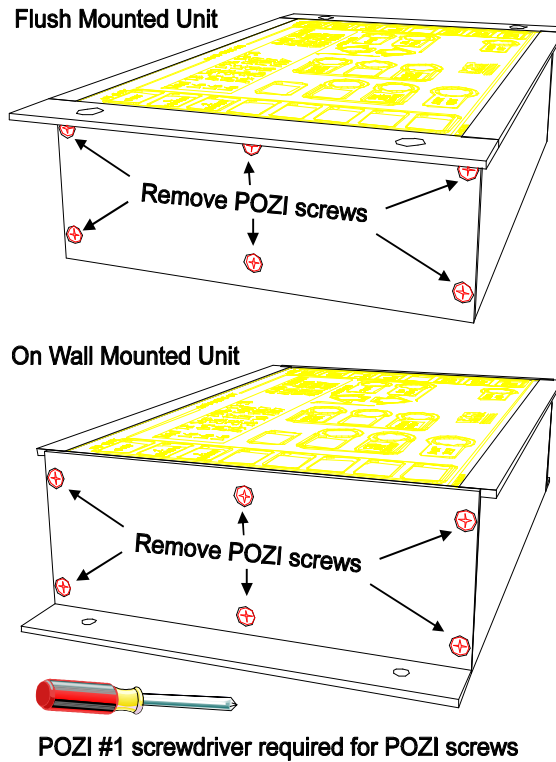
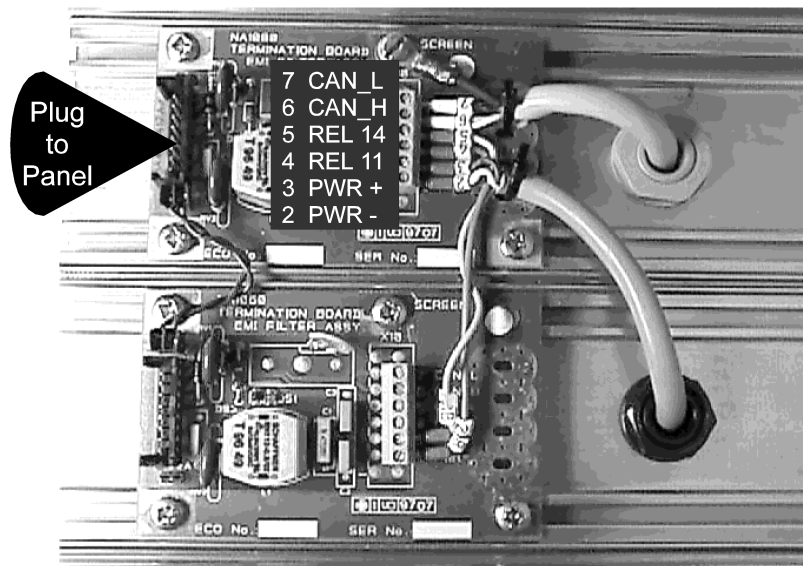

Figure 8 Position of Side Screws of WBU/WCU
Figure 9 Termination Board in the WBU
The procedure for replacing both the display-type and the alarm group-type panels are identical. The WBU (refer to Figures 2 and 3) and WCU (refer to Figures 4 and 5) are affixed to the bulkhead or console with four (4) screws (refer to Figure 8).
- 4 Remove the side screws and slide the Panel (refer to Figure 8). The Termination Board is also located inside the mounting frame (refer to Figure 9). Termination Board in the WBU.